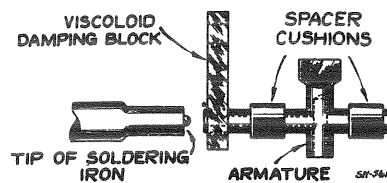

Figure 8—Special Soldering Iron Tip
- (d) After properly locating the damping block, a soldering iron should be applied to the armature so that the block will melt slightly at its point of contact with the armature. A special tip, constructed as shown in Figure 8, will prove desirable for fusing the block in place. The iron should be applied only long enough to melt the block sufficiently to cause a small bulge on each side, and must be removed be-